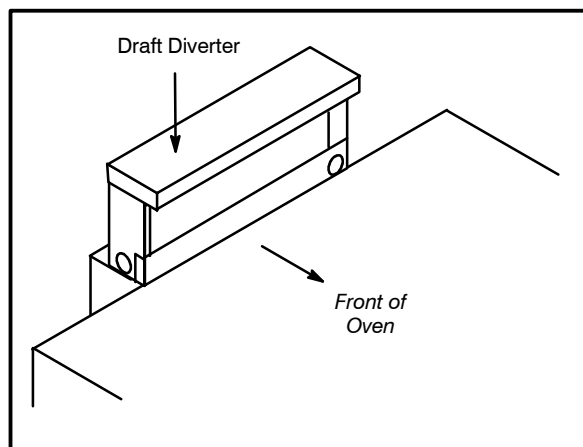

Figure 8
1. Place the diverter over the flue connector with the open area facing the front of the oven. See Figure 8.